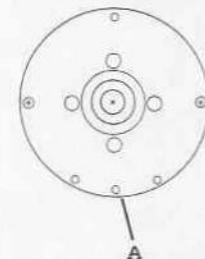

Figure 4-15
3. Use Figure 4-15 as a guide for further disassembly.
Except for the control module, those parts shown in Figure 4-15 may be washed with a mild soap and water solution. Make sure to dry the parts thoroughly.
- d. Do not submerge the Pop-off Valve. Liquids can become trapped within the valve. Clean the exterior surfaces with a soft cloth dampened in a solution of warm water and mild liquid detergent. Do not allow liquid to enter the Drive Gas Port (see Figure 4-15 Port "A"). Rinse the cloth in clean cold water and wipe the valve to remove all soap. Dry thoroughly before use and before sterilization.
⚠ WARNING: Liquids or any foreign material trapped within the driving gas circuit of the Pop-off Valve (Port "A", Figure 4-15) and Bellows Base (Port "B" and Ports "C", Figure 4-15) can impair operation of the Pop-off Valve. Do not use the Pop-off Valve or Bellows Base if this is suspected. If complete disassembly is required to remove trapped foreign material, perform Pop-off Valve Perform-
- ⚠WARNING:** Liquids or any foreign material trapped within the driving gas circuit of the Pop-off Valve (Port "A", Figure 4-15) and Bellows Base (Port "B" and Ports "C", Figure 4-15) can impair operation of the Pop-off Valve. Do not use the Pop-off Valve or Bellows Base if this is suspected. If complete disassembly is required to remove trapped foreign material, perform Pop-off Valve Performance Test (see Section 3.2) and Bellows Assembly Leak Test (see Section 3.3) before reuse.